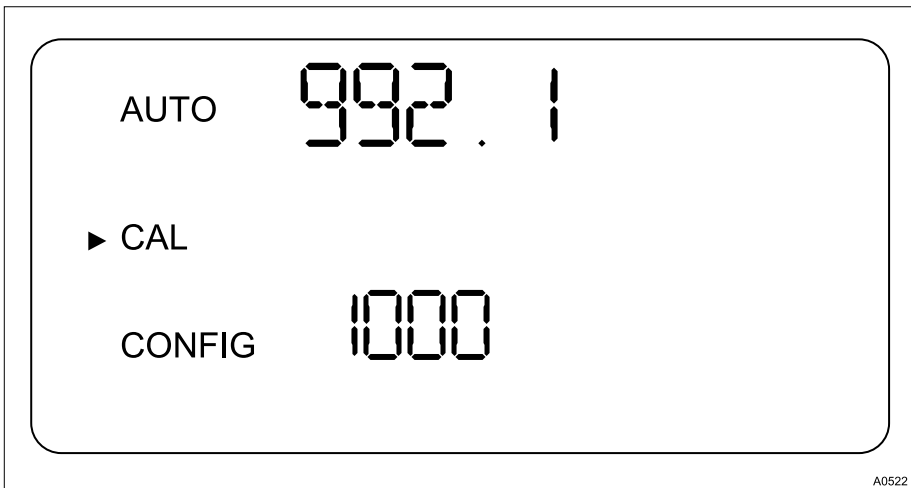

Fig. 24: Display [Calibration 1000 NTU]
- ⇒ The LCD display (see Fig. 24) shows an arrow next to *[CAL]*. The lower display value (1000) is the selected calibration point. The upper displayed value is the currently measured NTU value.